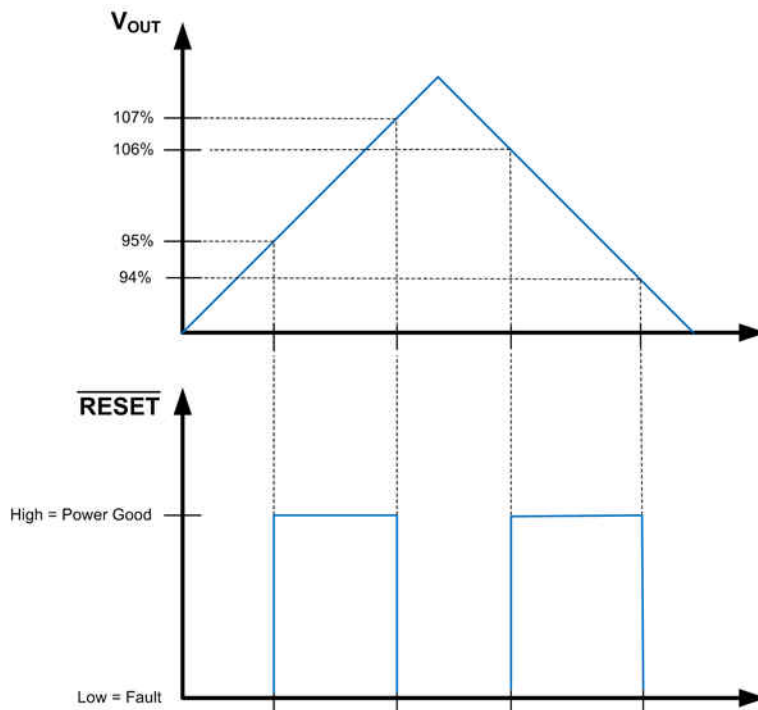
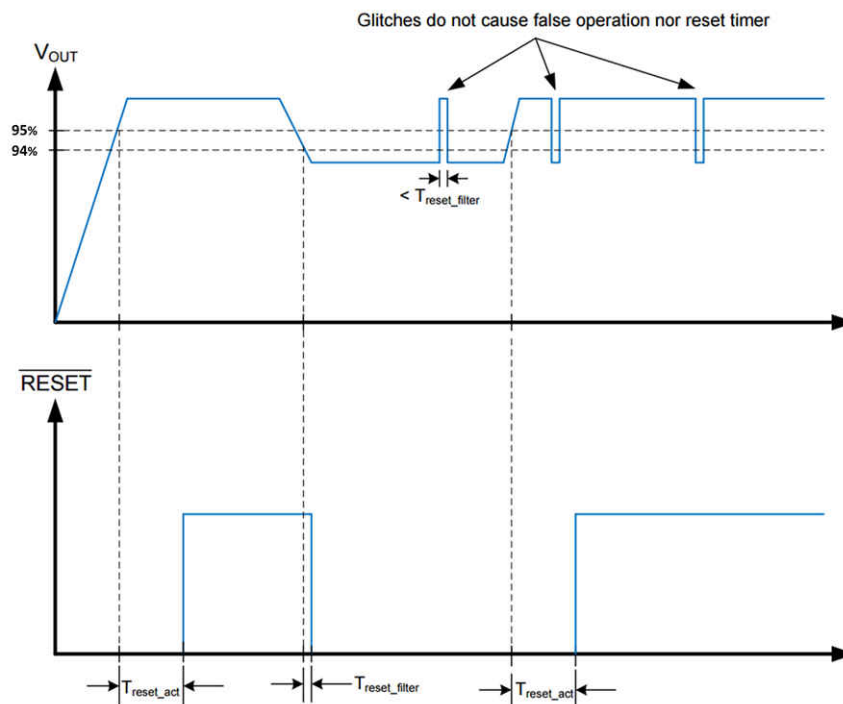
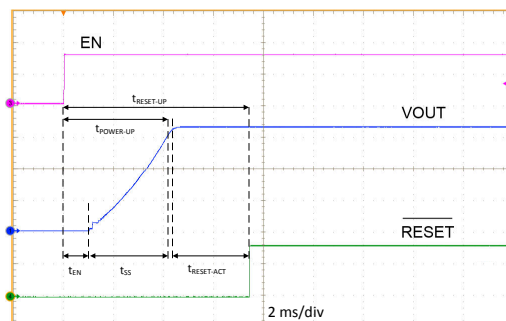

图 8-2. Static $\overline{RESET}$ Operation
图 8-3. RESET Timing Behavior
图 8-4. Typical Start-Up Waveform
- A delay has been added between the point at which the output voltage is within specified limits and the flag asserts Power Good. A glitch filter prevents false flag operation for short excursions in the output voltage, such as during line and load transients. See Figure 8-3 and Figure 8-4 for more detail.
Because the $\overline{\text{RESET}}$ comparator and the regulation loop share the same reference, the thresholds track with the output voltage. When EN is pulled low, the $\overline{\text{RESET}}$ flag output is forced low. When the device is disabled, $\overline{\text{RESET}}$ remains valid as long as the input voltage is ≥ 1.5 V. $\overline{\text{RESET}}$ operation can best be understood by reference to Figure 8-2 and Figure 8-3. Output voltage excursions lasting less than $T_{\text{RESET-filter}}$ do not trip $\overline{\text{RESET}}$. Once the output voltage is within the prescribed limits, a delay of $T_{\text{RESET-act}}$ is imposed before $\overline{\text{RESET}}$ goes high. This enables tighter tolerance than is possible with an external supervisor device while also expanding the system allowance for transient response without the need for extremely accurate internal circuitry.
A typical start-up waveform is shown in 图 8-4 along with timing definitions. This waveform indicates the sequence and timing between the enable input, output voltage, and RESET. From the figure, the user can define several different start-up times depending on what is relevant to the application. 表 8-1 lists the timing definitions and typical values.